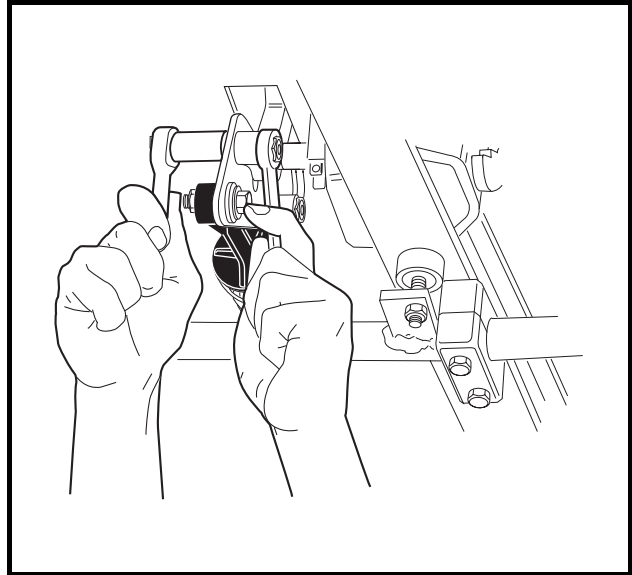

Figure 5-28 Accelerator Pedal Height Adjustment
- 5.1. Loosen the nut and bolt (**Figure 5-28, Page 5-19**) securing the accelerator pedal to the pivot plate.